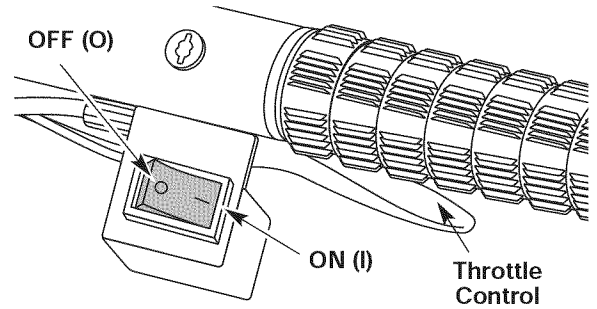

Fig. 8
2. Make sure the On/Off Stop Control is in the **ON [I]** position (Fig. 8).